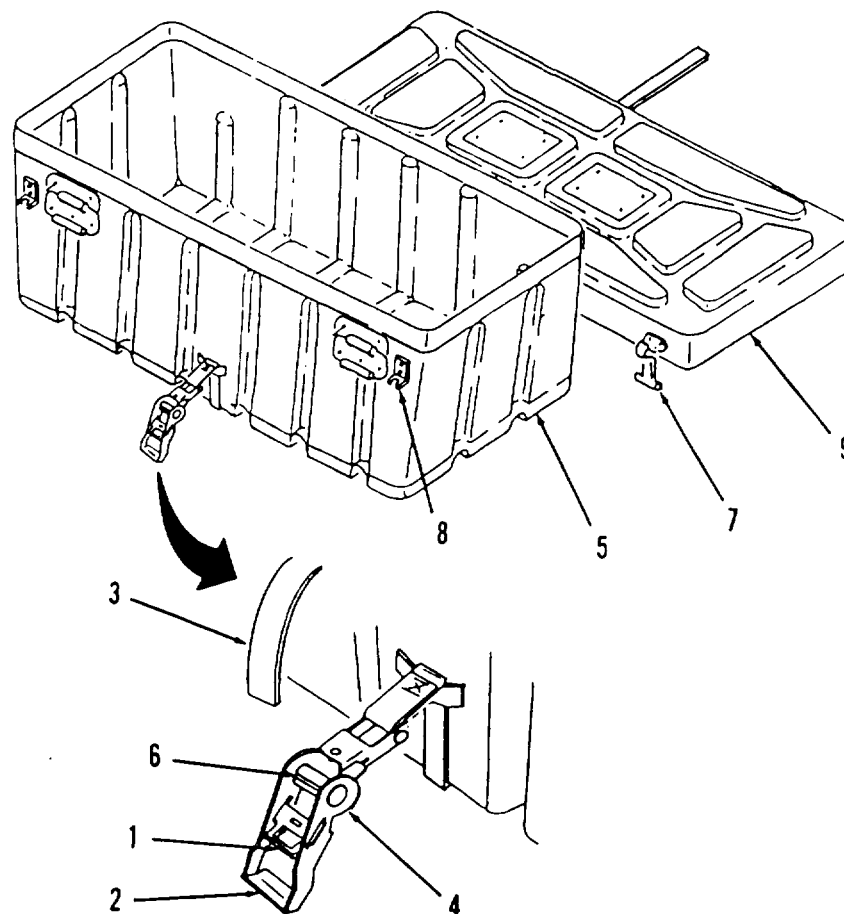

Figure 2-3. Opening Storage Chests.
2.5 ASSEMBLY AND PREPARATION FOR USE. This paragraph shows how to assemble the pumping assembly and prepare it for use. The steps provided and the illustrations shown are for a typical pump set up. Always be sure that you follow your local standard operating procedures (SOP) first if there is a conflict between the steps shown here and your SOP. (Refer to Figure 2-3.)
a. *Opening Storage Chests.* (Refer to Figure 2-3.)
- (1) Carefully squeeze ratchet release (1) and end of strap ratchet handle (2) together until tension on strap (3) is released.
- (2) Rotate strap ratchet handle (2) upward to fully release ratchet assembly (4) locking device.
- (3) While keeping strap ratchet handle (2) in the upward position, pull entire ratchet assembly (4) away from storage chest (5) to totally disengage strap (3) from slot (6) of ratchet assembly.
- (4) Remove strap (3) from top of storage chest (5).
- (5) Release four rubber latch handles (7) from catches (8) and remove storage chest lid (9) from storage chest (5).